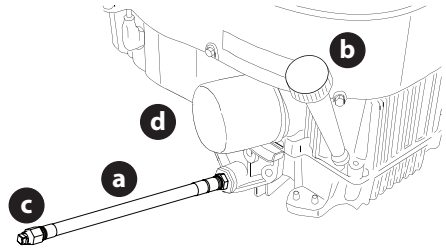

Figure 30
1. Locate the oil drain hose (a) on the side of the engine (Figure 30).
2. Place an appropriate oil collection container with at least a 2.5 quart (2.37 liter) capacity below the opening of the oil drain hose, to collect the used oil. Remove the oil fill cap/dipstick (b) from the oil fill tube (Figure 30).
3. While holding the free end of the oil drain hose over the oil collection container, unscrew the square head hose plug (c) from the end of the oil drain hose (Figure 30). Drain the engine oil into the collection container.
5. Remove the oil filter (d) and drain into the collection container (Figure 30).
6. Replace the oil filter (d) and refill the engine with new oil as instructed in the Engine Operator's Manual (Figure 30).